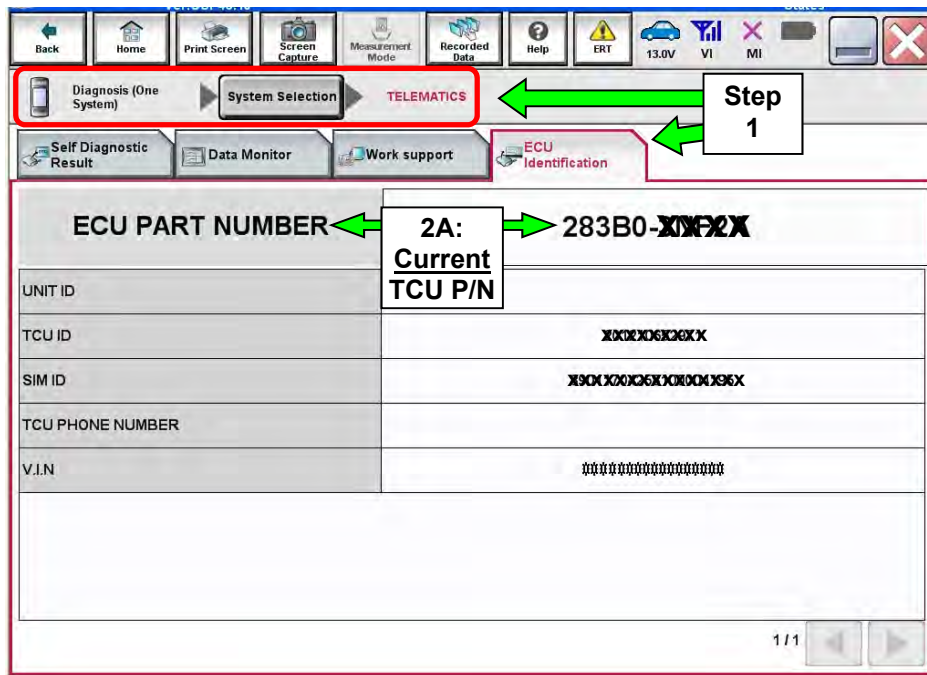

Figure 1
2. When you get to the screen shown in Figure 1, confirm this bulletin applies as follows.